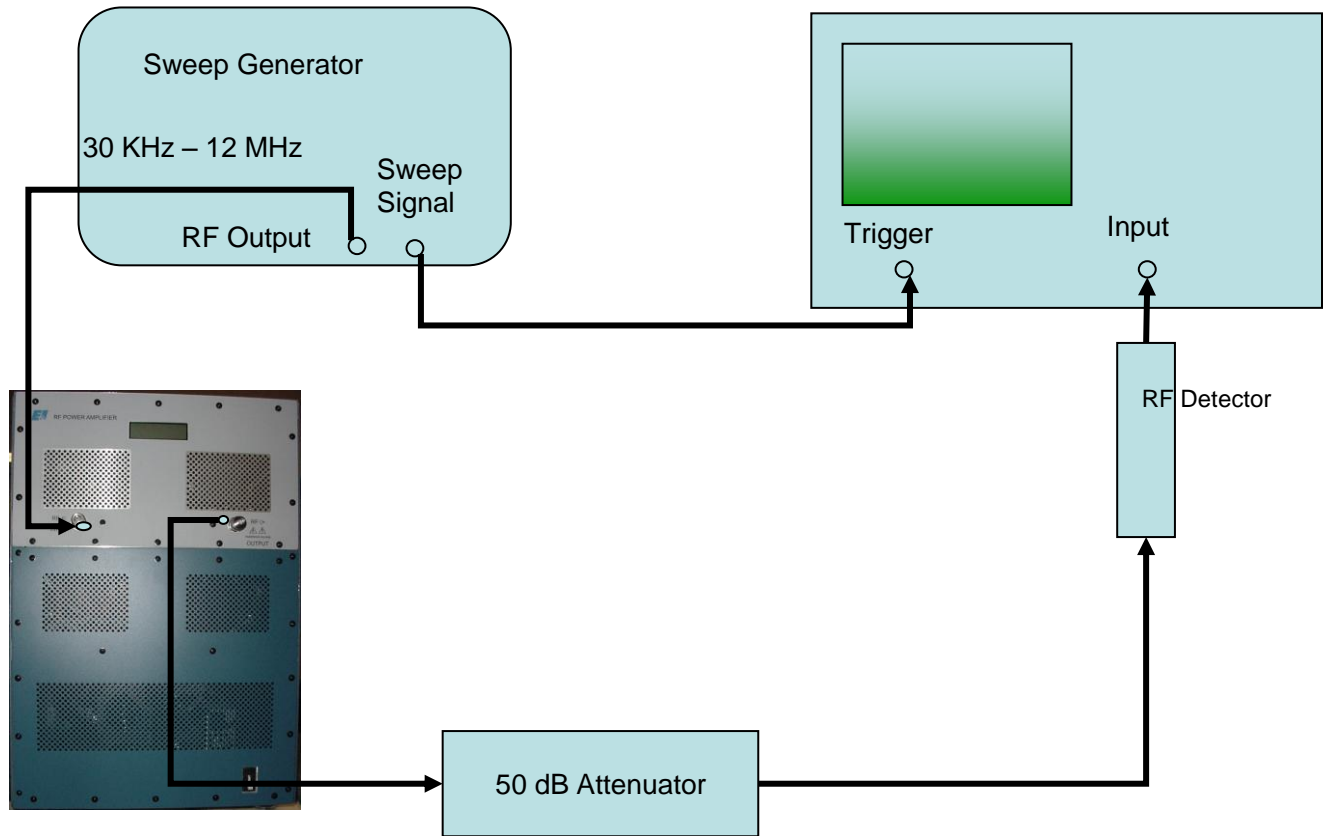

Figure 4-1. Gain Measurement
2. Connect the equipment as shown in Figure 4-1, then proceed as follows:
- g) Reconnect the 2500L into the test set-up of Figure 4-1.